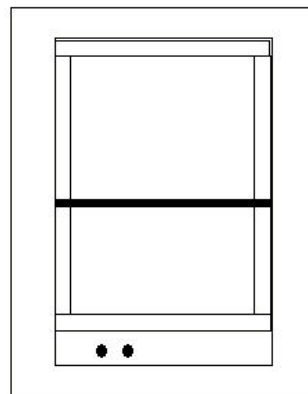

Figure 6
- The window pane itself can be drilled with a carbide bit and the feedline can be passed directly through these holes (9). The glass provides a very good insulator. With a metal window frame it is best to keep the feedline away from the metal. A rule of thumb might be a separation of twice the feeder conductor separation - see Figure 6.